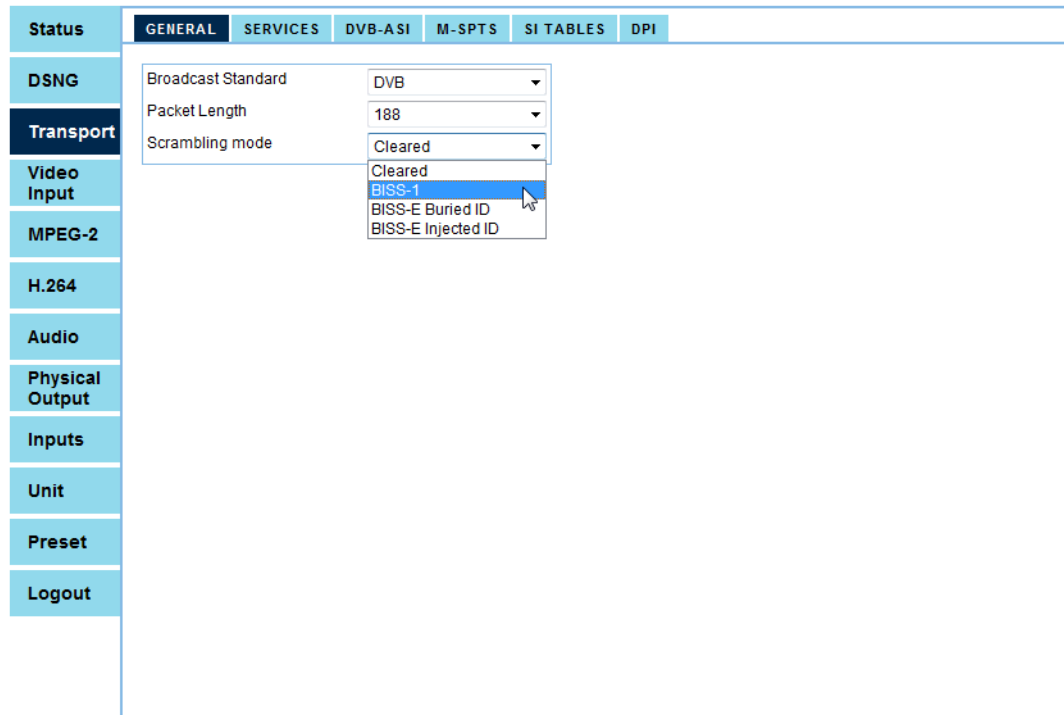

Figure 4–2: Web Manager – Transport Main Menu / General Menu
See Figure 4–1 for a diagram of the menus.
- ❖ Select **Transport > General** (see Figure 4–2).
- ❖ Select **Transport > General** (see Figure 4–2 on page 68).